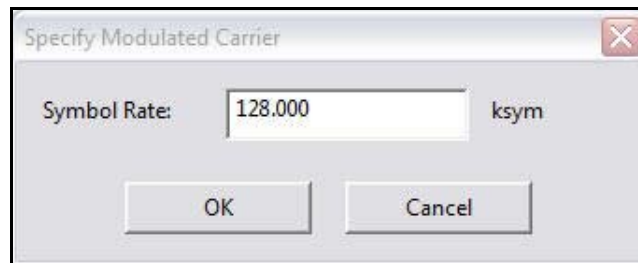

Figure 48. iSite: Specify Modulated Carrier Dialog Box
2. In the Specify Modulated Carrier dialog box (Figure 48), enter the Symbol Rate as directed.